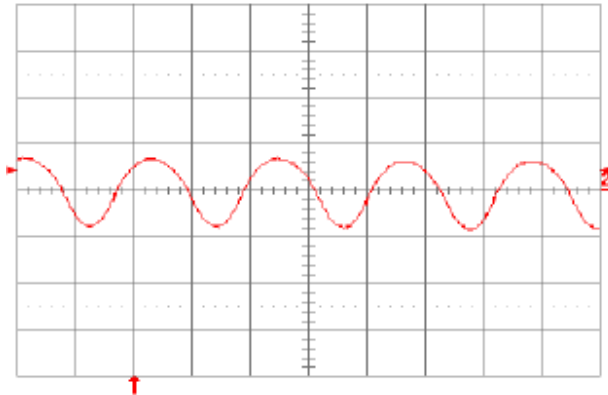

**Fig. 1.8V.12:** Test setup for measuring input reflected ripple currents,  $i_c$  and  $i_s$
**Fig. 1.8V.1:** Available load current vs. ambient air temperature and airflow rates for SQE48T30018 converter mounted vertically with air flowing from pin 3 to pin 1, MOSFET temperature  $\leq 120$  °C,  $V_{in} = 48$  V.
**Fig. 1.8V.3:** Efficiency vs. load current and input voltage for SQE48T30018 converter mounted vertically with air flowing from pin 3 to pin 1 at a rate of 300 LFM (1.5 m/s) and  $T_a = 25$  °C.
**Fig. 1.8V.5:** Power dissipation vs. load current and input voltage for SQE48T30018 converter mounted vertically with air flowing from pin 3 to pin 1 at a rate of 300 LFM (1.5 m/s) and  $T_a = 25$  °C.
**Fig. 1.8V.2:** Available load current vs. ambient air temperature and airflow rates for SQE48T30018 converter mounted horizontally with air flowing from pin 3 to pin 1, MOSFET temperature  $\leq 120$  °C,  $V_{in} = 48$  V.
**Fig. 1.8V.4:** Efficiency vs. load current and ambient temperature for SQE48T30018 converter mounted vertically with  $V_{in} = 48$  V and air flowing from pin 3 to pin 1 at a rate of 200 LFM (1.0 m/s).
**Fig. 1.8V.6:** Power dissipation vs. load current and ambient temperature for SQE48T30018 converter mounted vertically with  $V_{in} = 48$  V and air flowing from pin 3 to pin 1 at a rate of 200 LFM (1.0 m/s).
**Fig. 1.8V.7:** Turn-on transient at full rated load current (resistive) with no output capacitor at  $V_{in} = 48\text{ V}$ , triggered via ON/OFF pin. Top trace: ON/OFF signal (5 V/div.). Bottom trace: Output voltage (1 V/div.). Time scale: 2 ms/div.
**Fig. 1.8V.8:** Turn-on transient at full rated load current (resistive) plus 10,000  $\mu\text{F}$  at  $V_{in} = 48\text{ V}$ , triggered via ON/OFF pin. Top trace: ON/OFF signal (5 V/div.). Bottom trace: Output voltage (1 V/div.). Time scale: 2 ms/div.
**Fig. 1.8V.9:** Output voltage response to load current step-change (10 A – 20 A – 10 A) at  $V_{in} = 48\text{ V}$ . Top trace: output voltage (100 mV/div.). Bottom trace: load current (10 A/div.). Current slew rate: 0.1 A/ $\mu\text{s}$ .  $C_o = 1\ \mu\text{F}$  ceramic. Time scale: 0.2 ms/div.
**Fig. 1.8V.10:** Output voltage response to load current step-change (10 A – 20 A – 10 A) at  $V_{in} = 48\text{ V}$ . Top trace: output voltage (100 mV/div.). Bottom trace: load current (10 A/div.). Current slew rate: 5 A/ $\mu\text{s}$ .  $C_o = 470\ \mu\text{F}$  POS + 1  $\mu\text{F}$  ceramic. Time scale: 0.2 ms/div.
**Fig. 1.8V.11:** Output voltage ripple (20 mV/div.) at full rated load current into a resistive load with  $C_o = 10\ \mu\text{F}$  tantalum + 1  $\mu\text{F}$  ceramic and  $V_{in} = 48\text{ V}$ . Time scale: 1  $\mu\text{s}$ /div.
**Fig. 1.8V.13:** Input reflected-ripple current,  $i_r$  (100 mA/div.), measured at input terminals at full rated load current and  $V_{in} = 48$  V. Refer to Fig. 1.8V.12 for test setup. Time scale: 1  $\mu$ s/div.
**Fig. 1.8V.14:** Input reflected-ripple current,  $i_s$  (10 mA/div.), measured through 10  $\mu$ H at the source at full rated load current and  $V_{in} = 48$  V. Refer to Fig. 1.8V.12 for test setup. Time scale: 1  $\mu$ s/div
**Fig. 1.8V.15:** Output voltage vs. load current showing current limit point and converter shutdown point. Input voltage has almost no effect on current limit characteristic.
**Fig. 1.8V.16:** Load current (top trace, 20 A/div., 50 ms/div.) into a 10 m $\Omega$  short circuit during restart, at  $V_{in} = 48$  V. Bottom trace (20 A/div., 2 ms/div.) is an expansion of the on-time portion of the top trace.